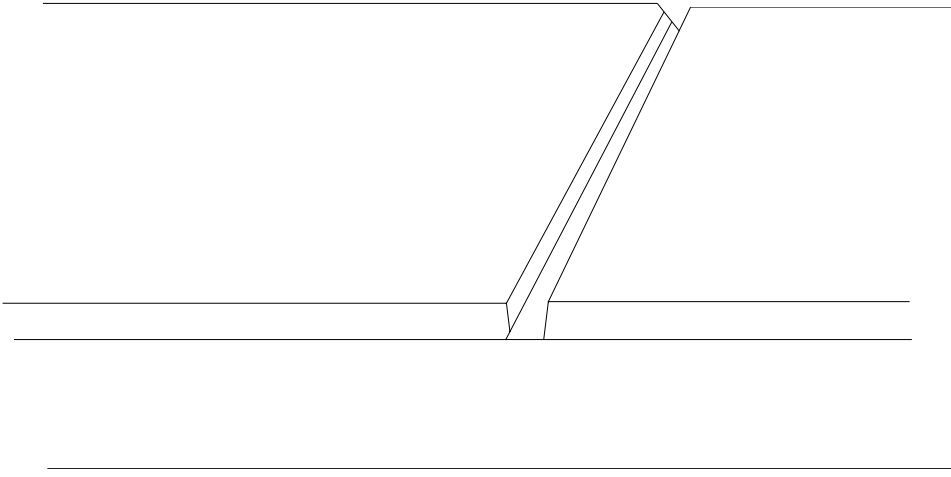

Figure A-10
- b. Open seams—Open joints or seams (see Figure A-10) are typically caused by improper conditioning and/or bonding. Conditioning both the laminate and the substrate helps prevent open seams caused by shrinkage. Allowance should also be made for some movement of the laminate.